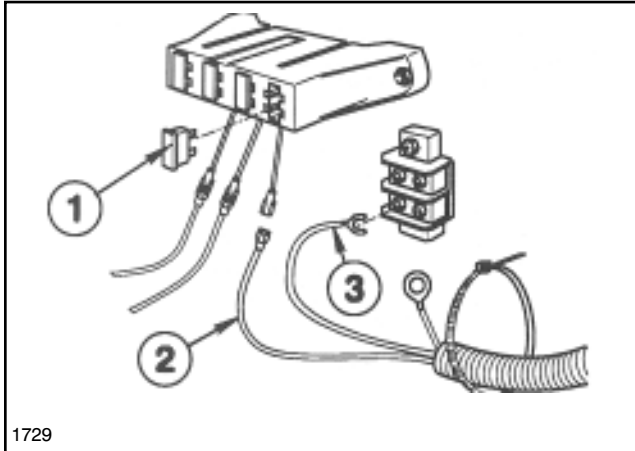

FIG. 5
9. Route Harness to Fuse Block under Operator Seat. Connect power and ground wires as shown in FIG. 5.